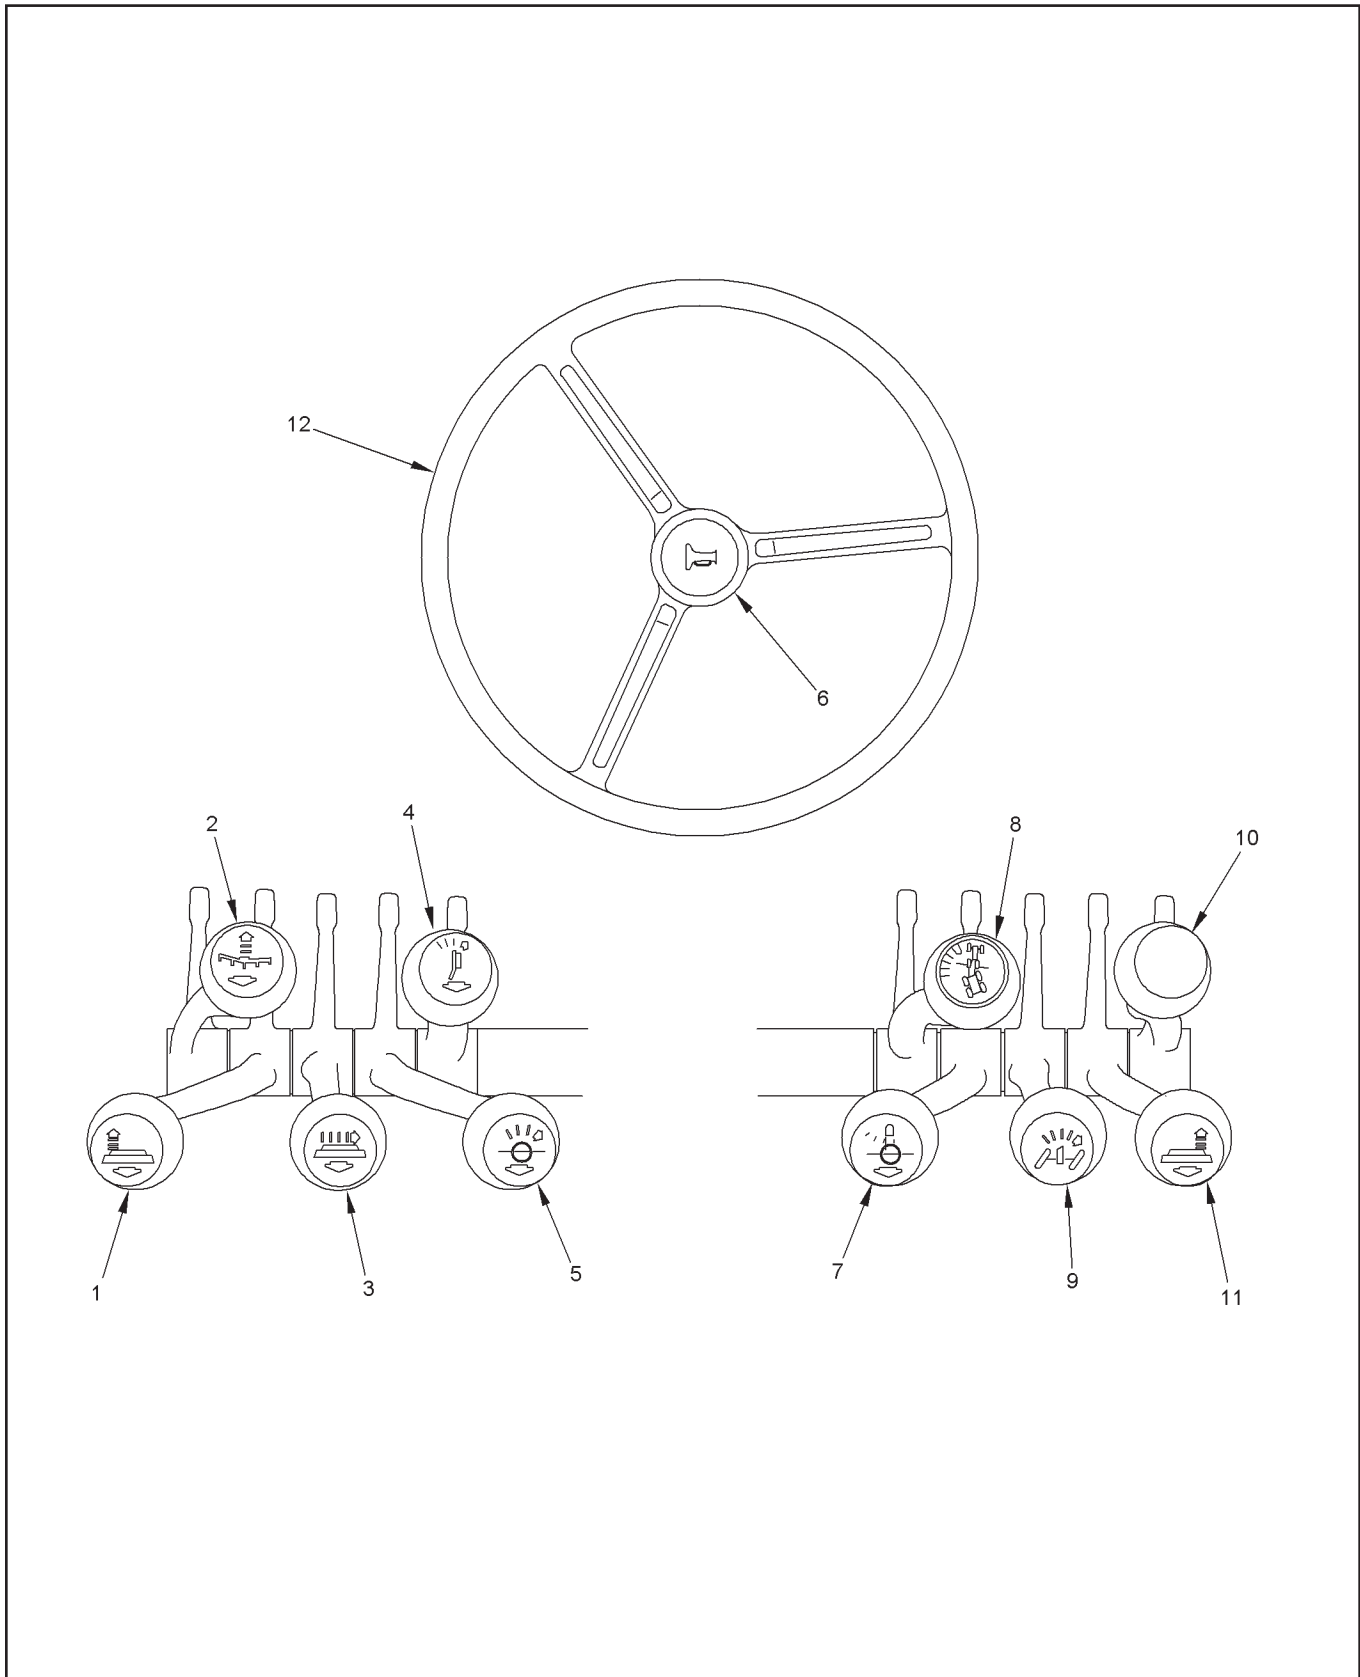

Figure 5-4. STEERING AND CONTROL LEVER GROUP
**Table 5-4. STEERING AND CONTROL LEVER GROUP (see Figure 5-4)**